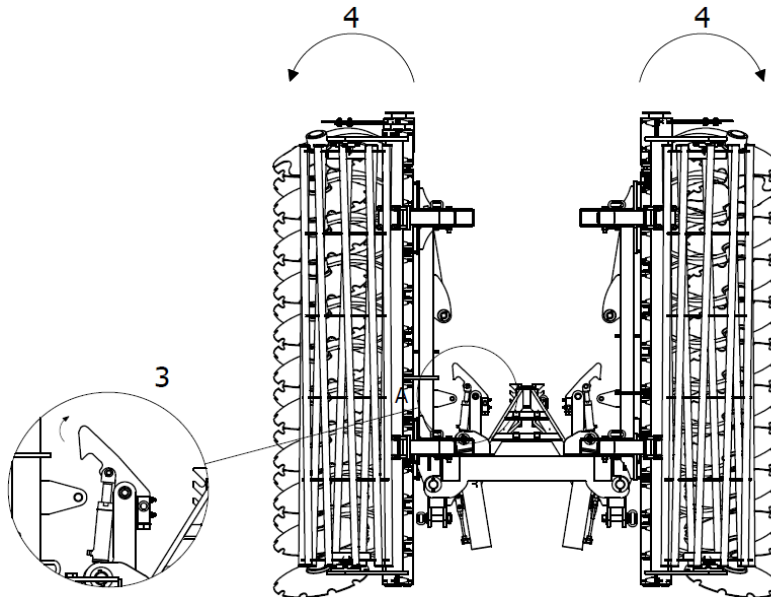

Fig. 9 Implement opening sequence: 3- release the hook of the hydraulic side extension lock mechanism, 4- open the implement side extensions.
3. Then, after making sure that the hook of the hydraulic side extension lock mechanism allows the machine side extensions to be unlocked, proceed to open them fully (Fig. 9).